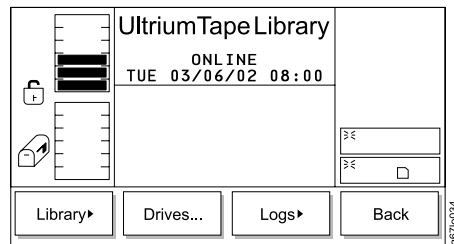

Figure 91. Status Menu
1. From the Main Menu's initial screen, press the button below the **Status** softkey. The Status Menu displays (see Figure 91).